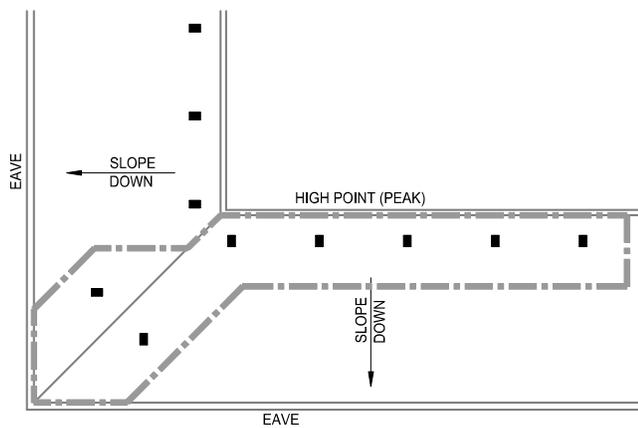

FIGURE 24A
- Calculate the 5 most hydraulically demanding contiguous DS sprinklers located along the high point plus the 2 most demanding sprinklers along the hip line. See Figure 24A.